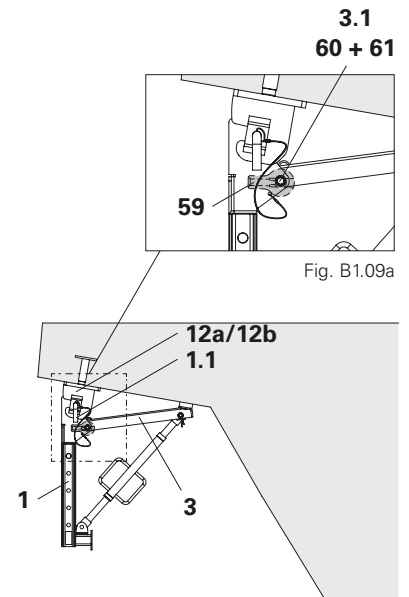

Fig. B.1.09
1. Bolt Eye Nut RCS DW15 (59) into Bracket Post VGK (1) using Pins Ø16x90 mm coat (60) and secure with Cotter Pins 4/1 ga (61). (Fig. B.1.09 + Fig. B.1.09a)
1. Attach Eye Nut RCS DW15 (59) to Bracket Cantilever VGK 50 (3) and Bracket Post VGK (1) using bolts and cotter pins (3.1). (Fig. B.1.09 + Fig. B.1.09a)